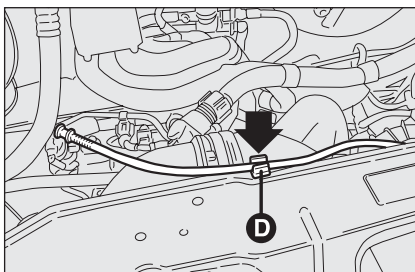
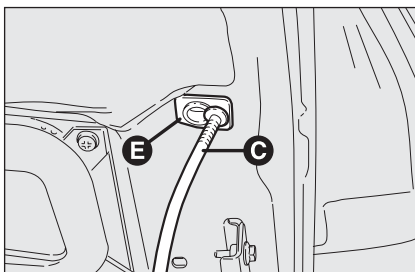

fig. 122
fig. 123
- ☐ lift the bonnet and at the same time release the rod **fig. 122** from the catch **D**, then fit the rod end **C-fig. 123** into the bonnet recess **E**.
- ☐ hold the bonnet up with one hand and with the other remove rod **C**-fig. 123 from recess **E** and fit it back into its catch **D**-fig. 122;